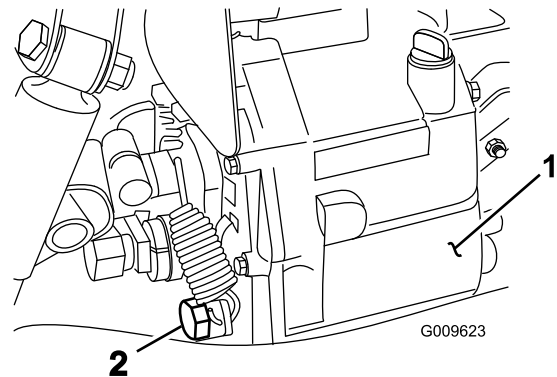

Figure 72
2. Remove the drain plug from the side of the reservoir, and let the hydraulic fluid flow into a drain pan (Figure 72).